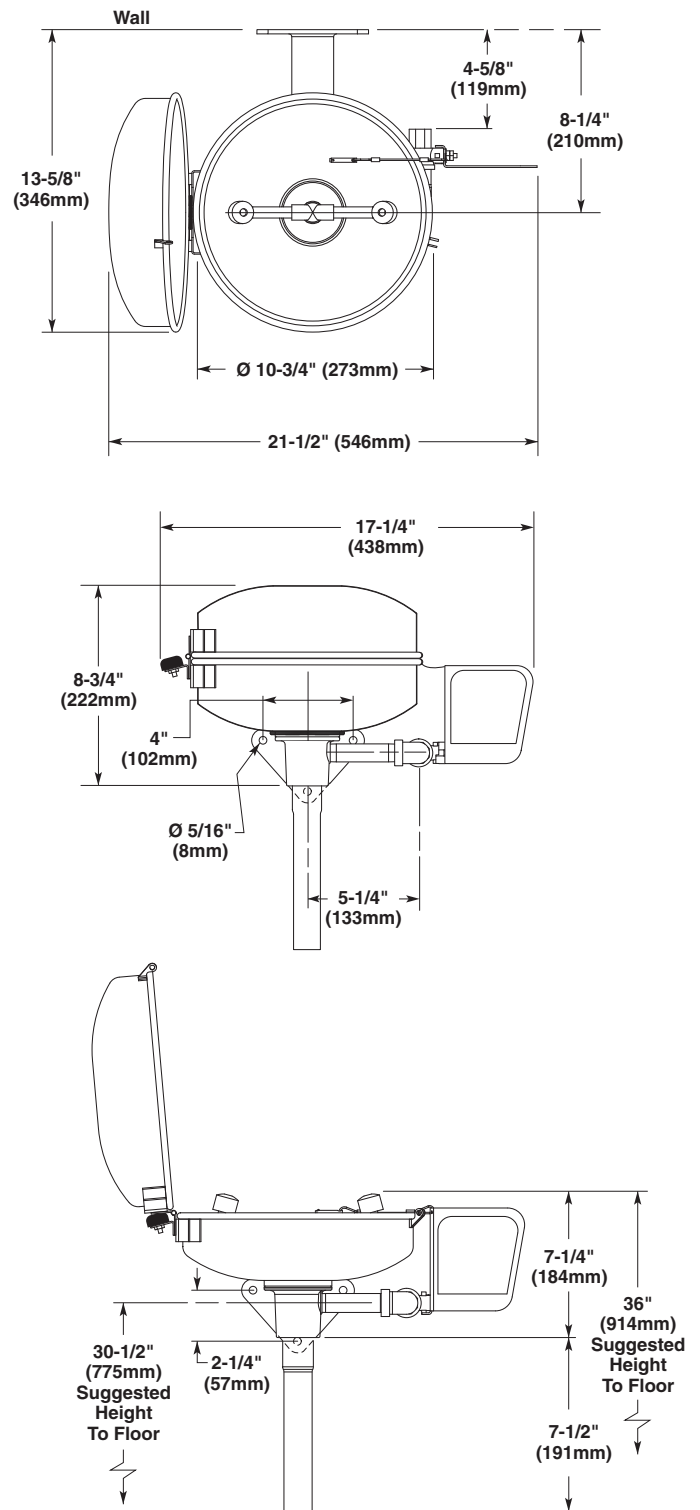

Figure 1
2. Using the inlet drain fitting as a template, mark the bolt hole locations on the wall OR install three suitable fasteners (supplied by installer) for 3/8" bolts in the wall at the marked hole locations (see Figure 1).